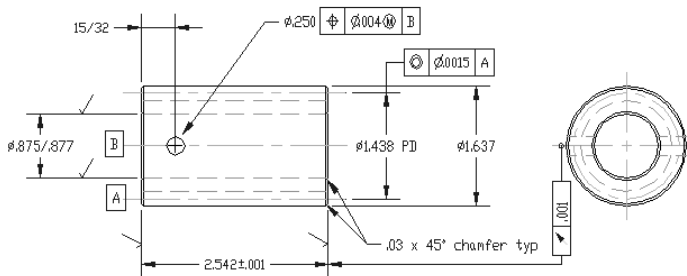

Figure 15-43: The drawing with the added geometric tolerance frame
8. Save your drawing. It should look like Figure 15-43.